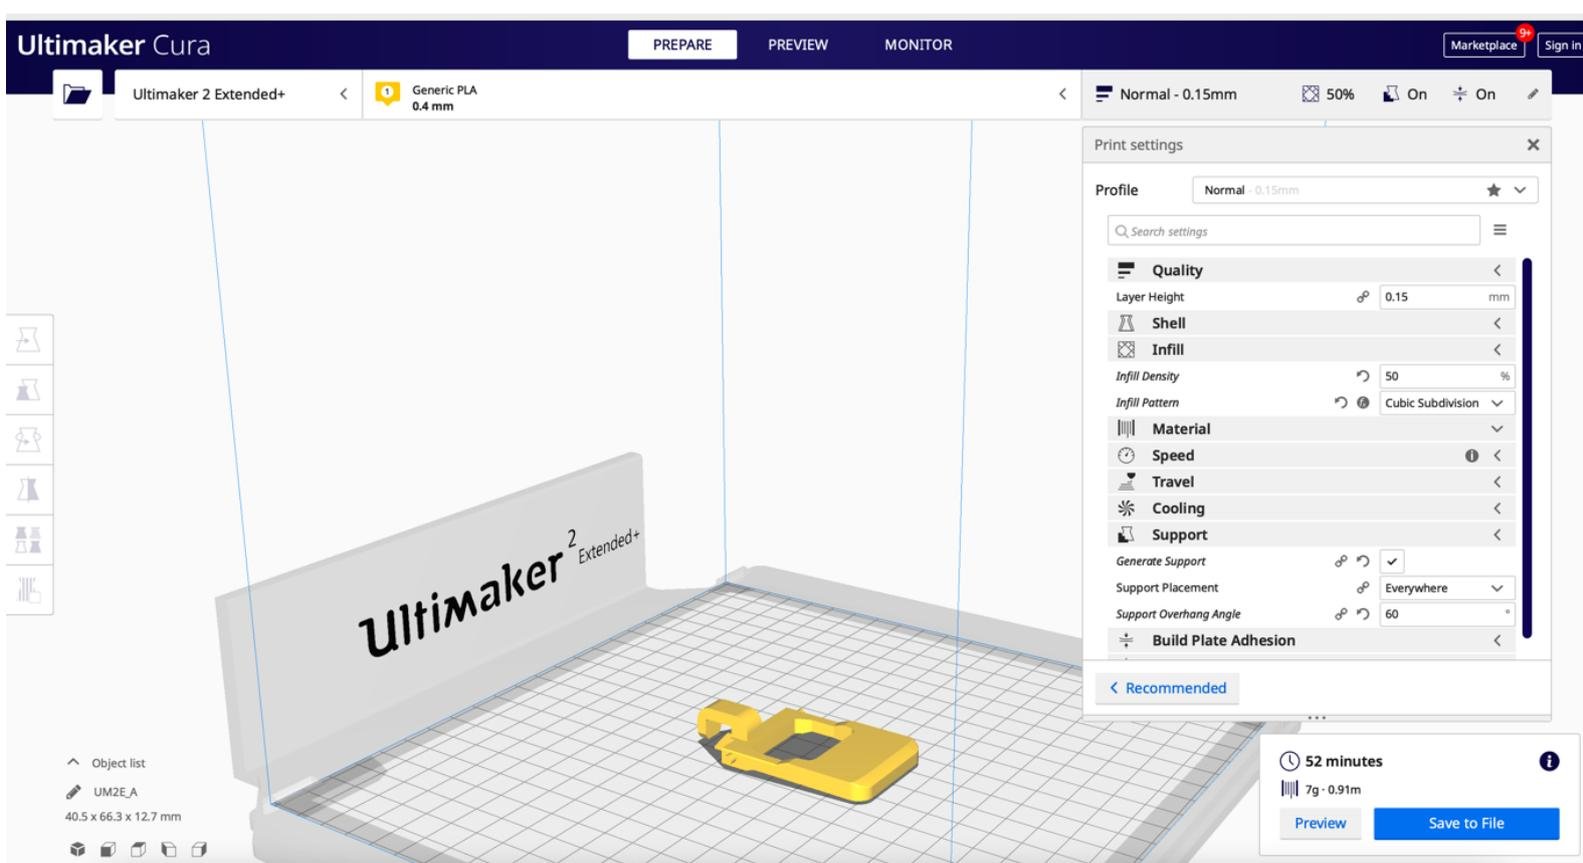

Figure 26 - Example of the use of slicing software in Ultimaker Cura.
2. Download the slicing software of your preference and install it in your computer. Depending on the printer you are using you will find different slicing software options that are compatible. We recommend Cura from Ultimaker [44], since it is free to use and compatible with several other printers. Figure 26 shows an example of what the screen for Cura looks like.
3. Once you have selected the printing settings and before exporting your file, verify the printing time and estimated material weight. You will use this information to test the quality of the print once it is ready. The example in Figure 26 shows an estimate of 7g of material and a printing time of 52 minutes.